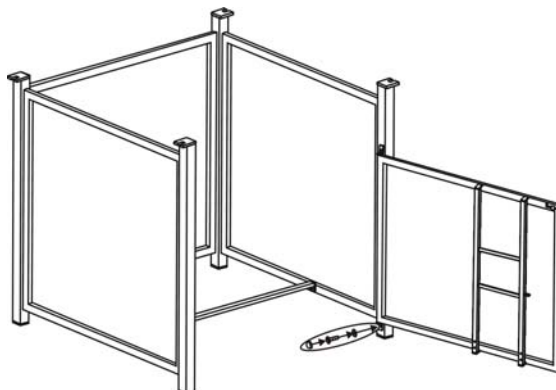

Figure 4
- 2 Attach the complete base to the complete seat by using four 5/16"x40 mm bolts and washers as shown in **Fig.4**. Guide the bolts through holes in base, into the pre-drilled holes in the seat. **Hand tighten only**.
4. Attach the "L" connector to right side panel by using a 1/4"x15 mm bolt and washer as shown in Figure 4. Guide the bolt through the hole in the "L" connector, into the pre-drilled hole in the right side panel. **Do not over tighten.**